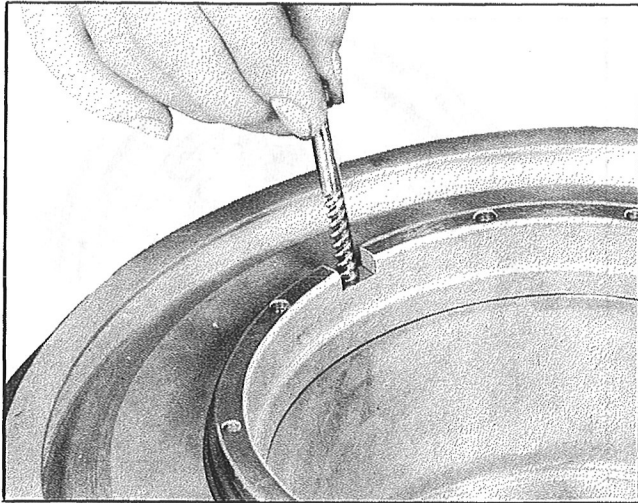

Figure 129—Removal of the Control Screws
*Step 9.*—Remove the three control screws and thrust washers, turning counterclockwise by hand, as shown in Figure 129.